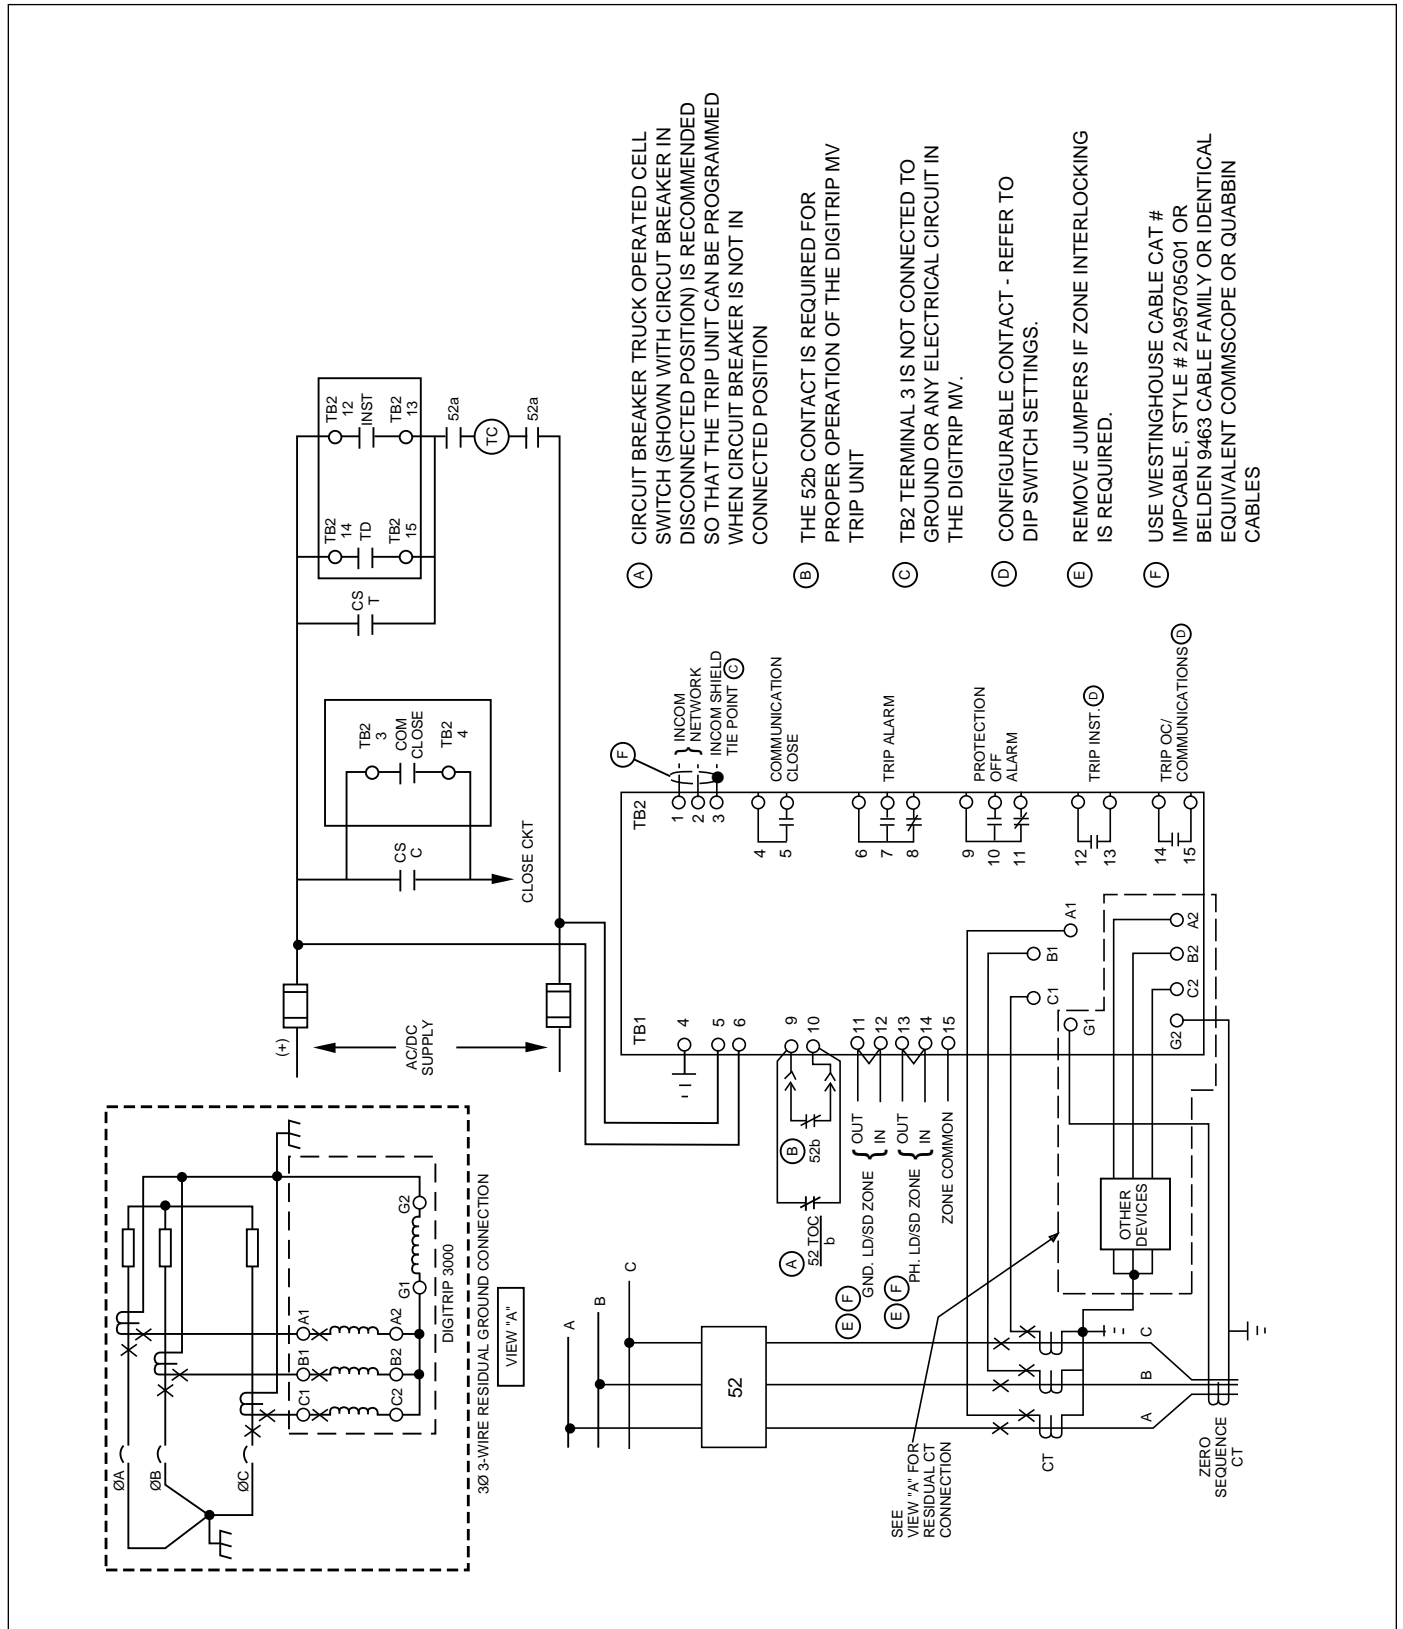

Figure 3-1 Digitrip 3000 Typical Wiring Diagram
The Digitrip 3000 Protective Relay requires that a customer supplied source of input control power be wired into the TB1 terminal block located on the rear panel. Refer to the typical wiring diagram in Figure 3-1. A power supply can be either AC or DC voltage within the acceptable voltage ranges outlined in Paragraph 2-3 entitled “UL Testing and Specification Summary.”
This section specifically describes the operation and functional use of the Digitrip 3000 Protective Relay. It does not address in detail rear power connections and DIP switch settings. These topics are covered in SECTION 5 entitled “INSTALLATION/TESTING/STARTUP.” It would be helpful, however, to become familiar with the relay’s wiring diagram before proceeding with the rest of this section (Figure 3-1).
1. *The Program Mode can be entered with the circuit breaker open or closed, depending on how DIP switch S2 is set. Refer to Table 5.1 for DIP switch settings. The circuit breaker position is determined via the normally closed breaker "b" contact on terminals 9 and 10 of TB1. Refer to the typical wiring diagram in Figure 3-1.*